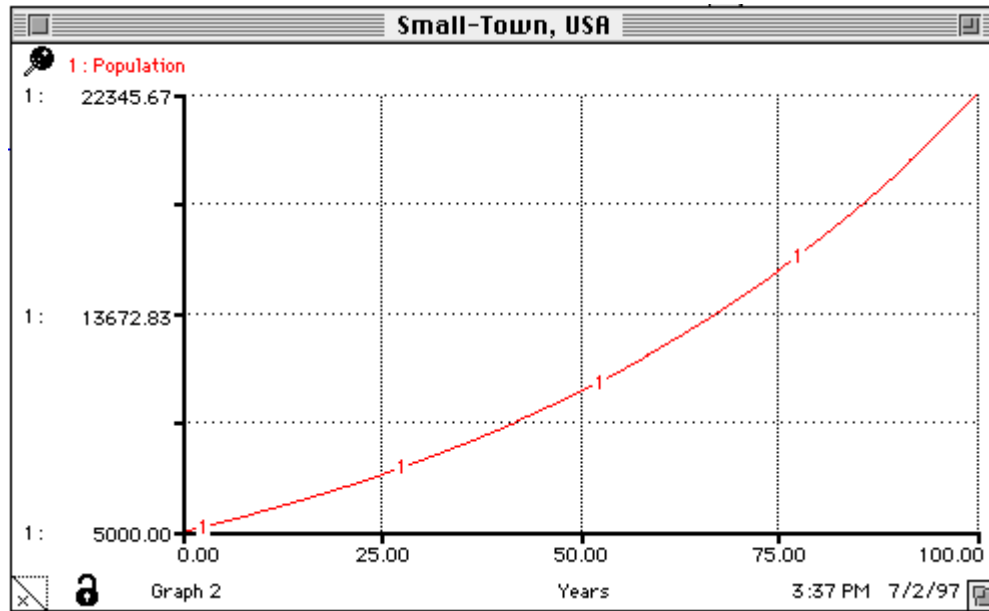

Figure 33: The behavior of the population of Small-Town
- **Hold down the open-apple key (with the symbols  ⌘) and press the “r” key.** You should see the graph reproduced in Figure 33.